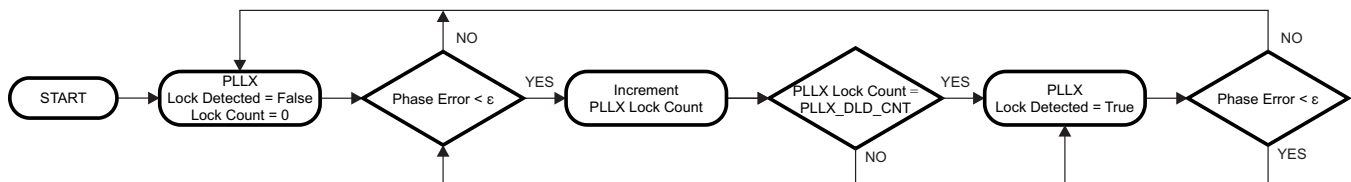

图 13. Digital Lock Detect Flowchart
Both PLL1 and PLL2 support digital lock detect. Digital lock detect compares the phase between the reference path (R) and the feedback path (N) of the PLL. When the time error, which is phase error, between the two signals is less than a specified window size (ϵ) a lock detect count increments. When the lock detect count reaches a user specified value, `PLL1_DLD_CNT` or `PLL2_DLD_CNT`, lock detect is asserted true. Once digital lock detect is true, a single phase comparison outside the specified window will cause digital lock detect to be asserted false. This is illustrated in Figure 13.